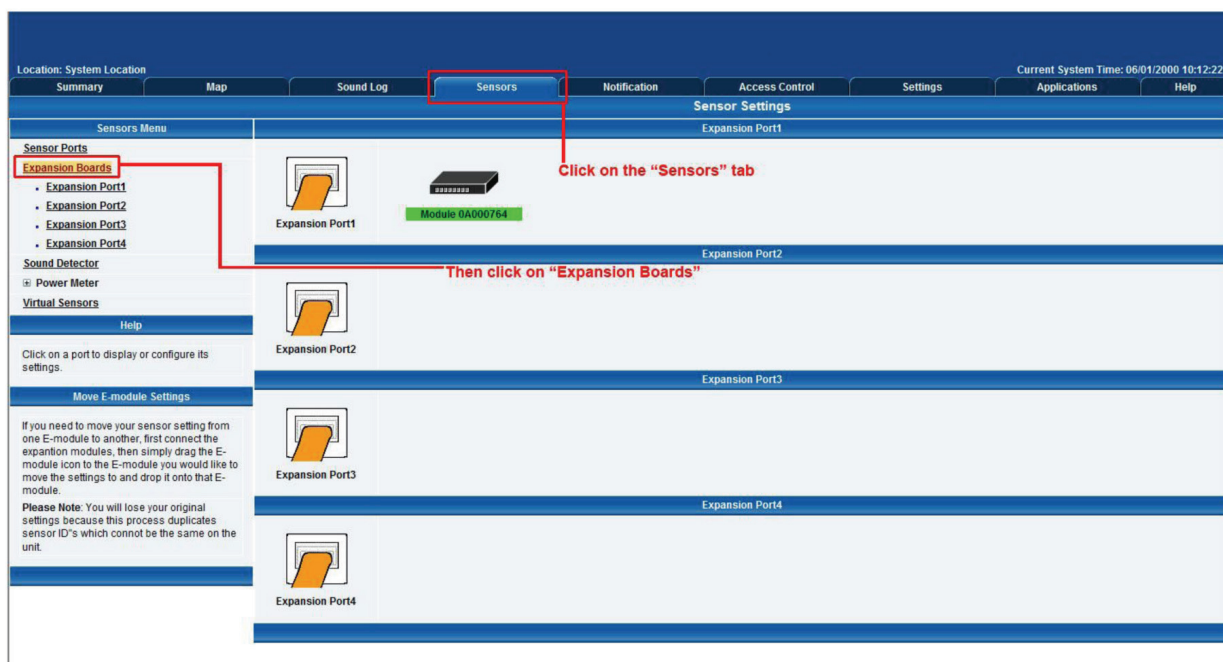

Figure 3-51. Sensors tab, extended port option.
2. From the summary page, navigate to the “Sensors” tab. Then click “Extended port” as outlined in Figure 3-51.